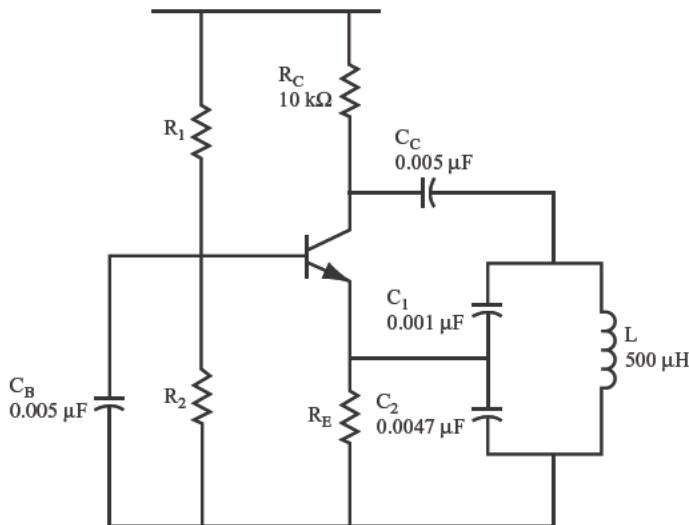

FIGURE 9.38
7. The circuit is shown in Figure 9.38.
34 The circuit you designed in problem 33 is shown in Figure 9.38.
- 9.** For the circuit shown in Figure 9.38, calculate the values of C_1 , C_2 , C_C , and C_B for an oscillator with an output frequency of 10 kHz using a 100 mH coil.